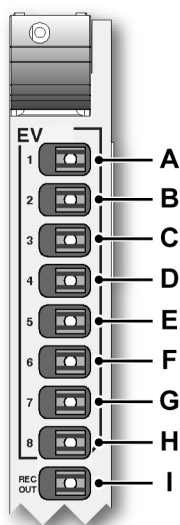

Figure 12.41: GN4070 Binary marker HV card (detail)
The binary marker HV modules come with nine (9) fiber optic connectors (see Figure 12.41) and two (2) 26-pin connectors. The lowest fiber optic connector provides the recording status output. The fiber optic input connectors provide the marker (event) channels 1 through 8. The non-isolated marker inputs provide the marker (event) channels labeled 33 through 64.